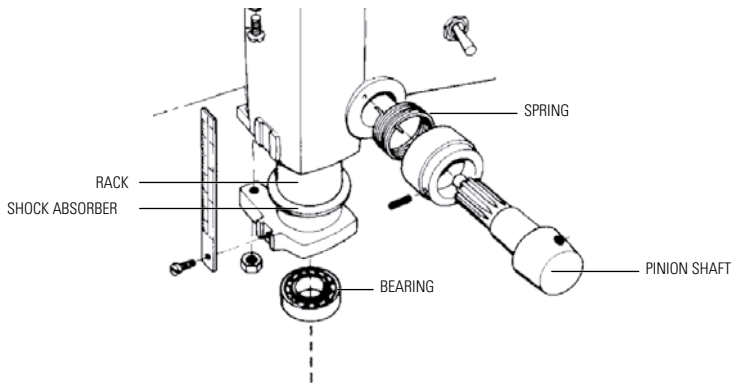

FIGURE 12.1
4.2 Check the action of the return spring of the pinion (Figure 12.1), if necessary adjusting it in an anticlockwise direction.
5.1 Wash and lubricate the upper and lower bearings (Figure 12.1). For lubrication use grease with a base of NLGI 2 degree lithium soap with the addition of extreme pressure (EP). Ref.: Shell Alvania EP-2, Texaco Multifak EP-2